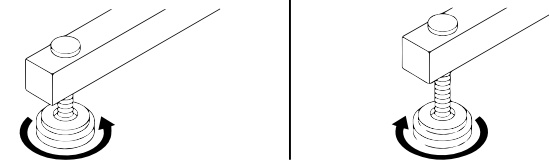

Figure 3.2 Leg Levelers
Leg Levelers: Manually rotate up or down in order to stabilise the chair before use (Fig. 3.2).
2. Adjust the leg levelers to stabilise the Air Lift Chair (**Fig. 3.2**), or if desired attach the 4 optional mobility castors.